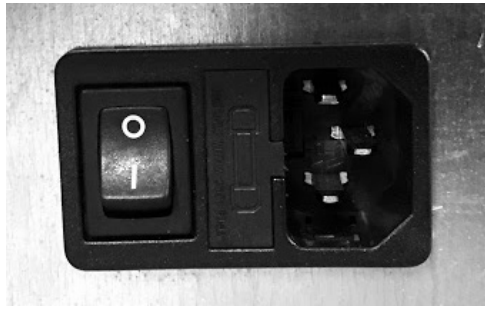

Fig. 32 - Electric socket with master switch
- Connect the supply cable first on the back of the stove (see **Fig. 32**) and then at a wall electric socket.
- The master switch 0/I (see **Fig. 32**) is to open only to switch the stove on, otherwise it is advisable to keep it off.